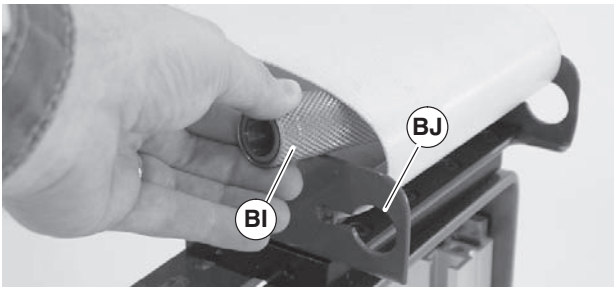

Figure 47
1. Insert pulley (Figure 47, item BI) inside belt loop.